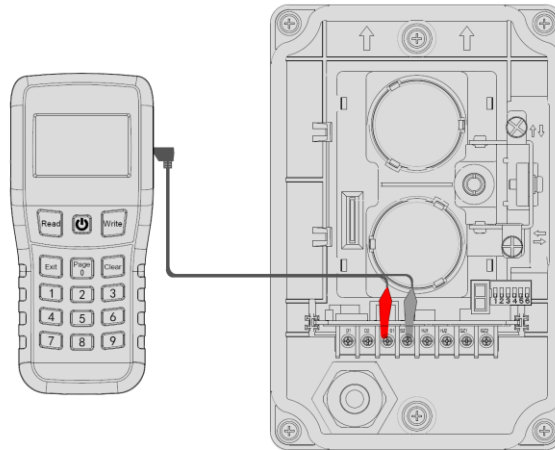

Figure 8: Programming connection Details
Connecting the handheld programmer to terminal S1 and S2. Refer to Figure 8.
- b. Once you located the mark, loosen the M4x12 screw and adjust the horizontal or vertical adjustment wheel until the Laser beam mark at the centre of the mirror. Refer to figure 8.